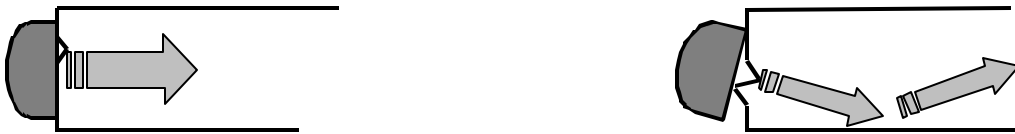

Figure 3 Effect of lowered and raised grade marks
- Bolt ends with recessed grademarks, as shown at left of Figure 3. Couplant can be used to fill recessed grademarks. Small indentations cause some loss of signal strength, but normal measurement is still possible. Large or numerous indentations cause the signal to be too weak for a reliable measurement.
- Bolt ends with raised grade marks, or indentations with a raised edge, which cause the transducer to be seated at an angle to the axis of the bolt, thus preventing adequate contact, as shown at right of Figure 3.